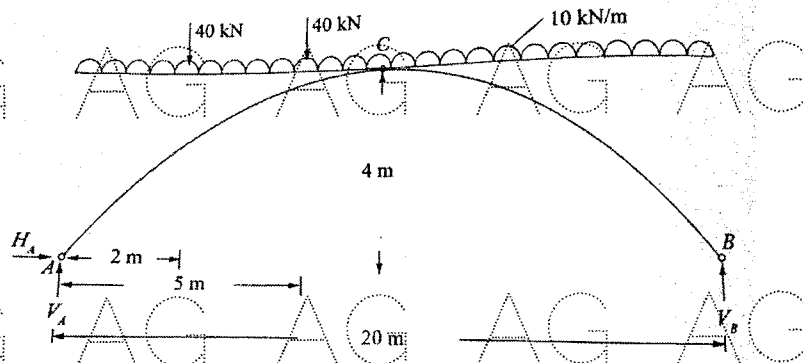

Figure: 5
7. Determine the radial shear, normal thrust and BM at 4m from left support for three hinged arch shown in Figure 5. [10]